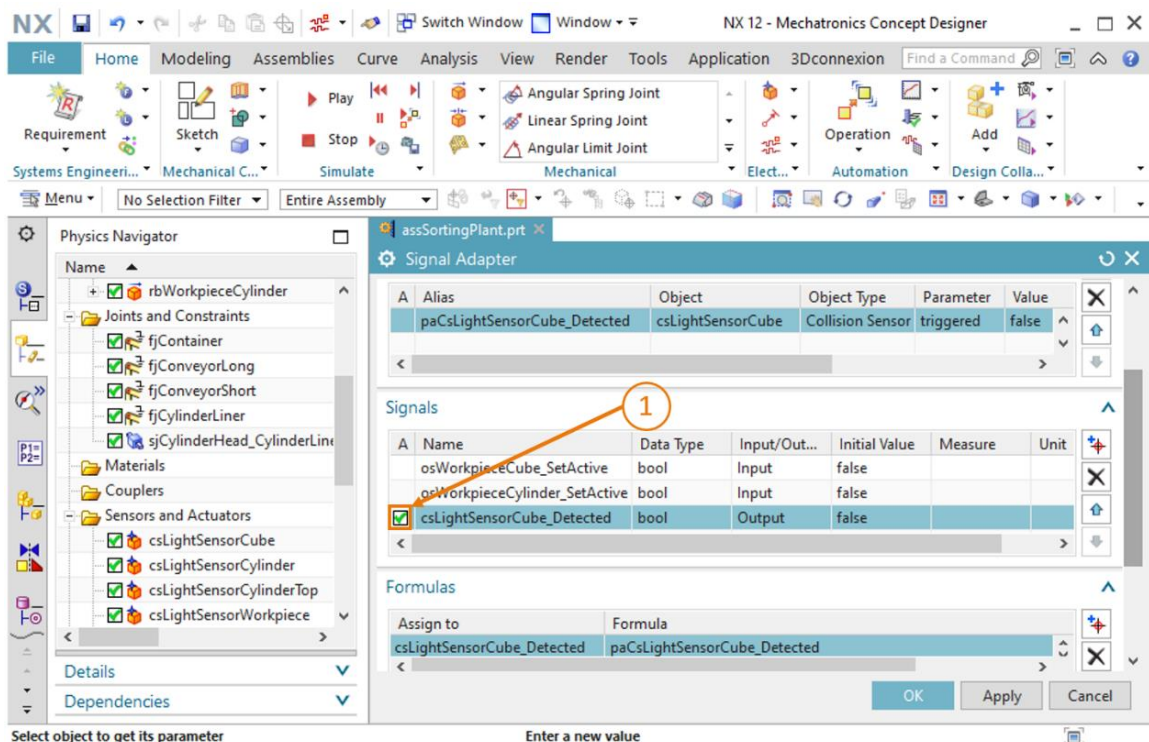

Figure 9: Creating an output signal for a light sensor
- For the "**triggered**" parameter of the "**csLightSensorCube**" collision sensor, create a new parameter with alias name "**paCsLightSensorCube_Detected**" in the signal adapter. For the associated signal, specify a **Boolean** signal named "**csLightSensorCube_Detected**". This must be defined as "**Output**" because the "**paCsLightSensorCube_Detected**" parameter has the value "**R**" in the "**Read/ Write**" column, which means it must be read. Assign an output value of "**false**" to the signal. Select the check box ☒ in front of the signal, as shown in Figure 9, step 1, so that a formula can be assigned to the output signal. Use the direct assignment of the "**paCsLightSensorCube_Detected**" parameter as the formula for the "**csLightSensorCube_Detected**" signal.